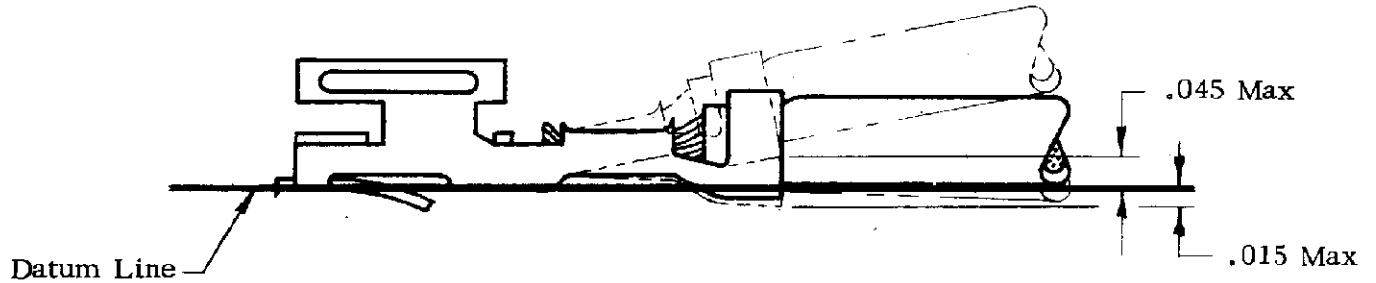

Figure 2
- (1) The contact shall not be bent above or below the datum line more than the amount shown in Figure 2.